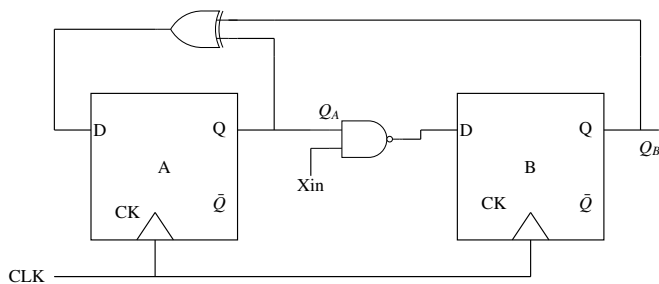

Fig. 6.11
7. A finite state machine (FSM) is implemented using the D flip-flops  $A$  and  $B$ , and logic gates, as shown in Fig. 6.11 below. The four possible states of the FSM are